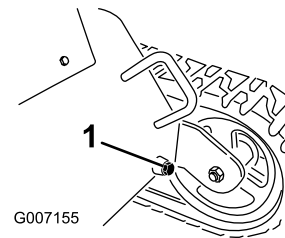

Figure 74
7. Place a large drain pan, capable of holding 15 US gallons (60 l), under the drain plug on the front of the traction unit (Figure 74).
8. Remove the drain plug and allow the oil to drain into the pan (Figure 74).